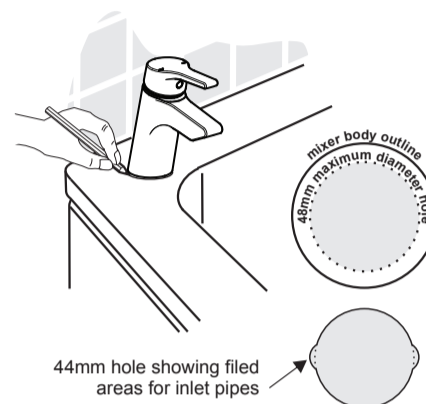

Figure 1 Tap hole details for S/L bath filler B0165
The one hole bath filler is designed for a corner installation (see Fig 1) or a position along the front side rim of the bath. Do not fit in line with the overflow assembly.
e.g. A 1 1/4" (44mm) cutter can be used and the hole filed out locally to accommodate the inlet pipes. (Figure 1)
Before fitting the tails, offer up the bath S/L in the intended location and check for free movement of the lever. Draw a pencil line around the base (Figure 1)
In the center of the of the outline, drill the 48mm hole. (Figure 1)